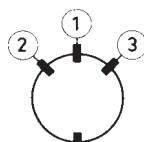

Fig. 4c
5. Now place wedge (4) as in Fig. 4c or 5c and press so that it adheres to the tube.